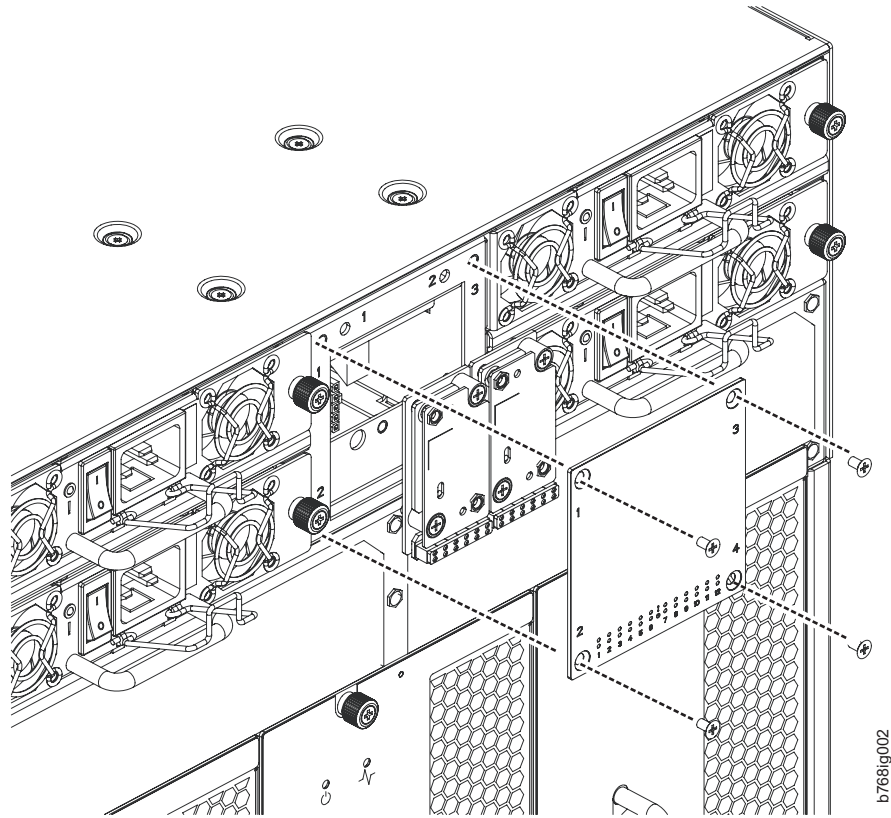

Figure 39. WWN bezel and card removal and installation
6. Remove the four screws from the WWN bezel (see Figure 39 on page 95). Pull the bezel away from chassis and set it aside. The WWN cards are visible.
3. Install the WWN bezel. Orient the bezel on the chassis (see Figure 39). Insert and tighten the four screws.